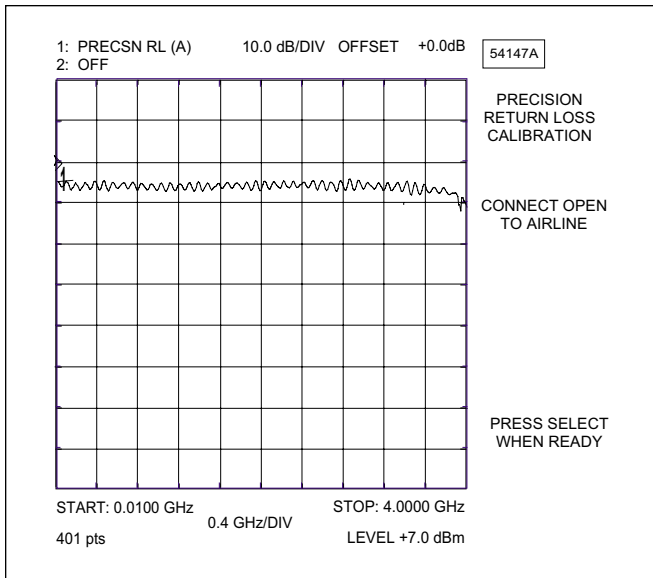

Figure 5. Example of a Good Connection
17. Verify that the display resembles that shown in Figure 5 (above).